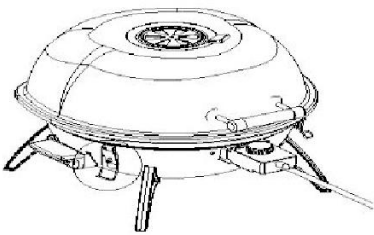

Fig. 2
2. Insert the Temperature Control Thermostat Prong (part #7a) with the Temperature Control Dial facing up, into the Opening for the Temperature Control (part #2a) at the front of the unit just below the rim of the Bowl. (Fig. 2). Push in all the way to be sure it is making full contact.